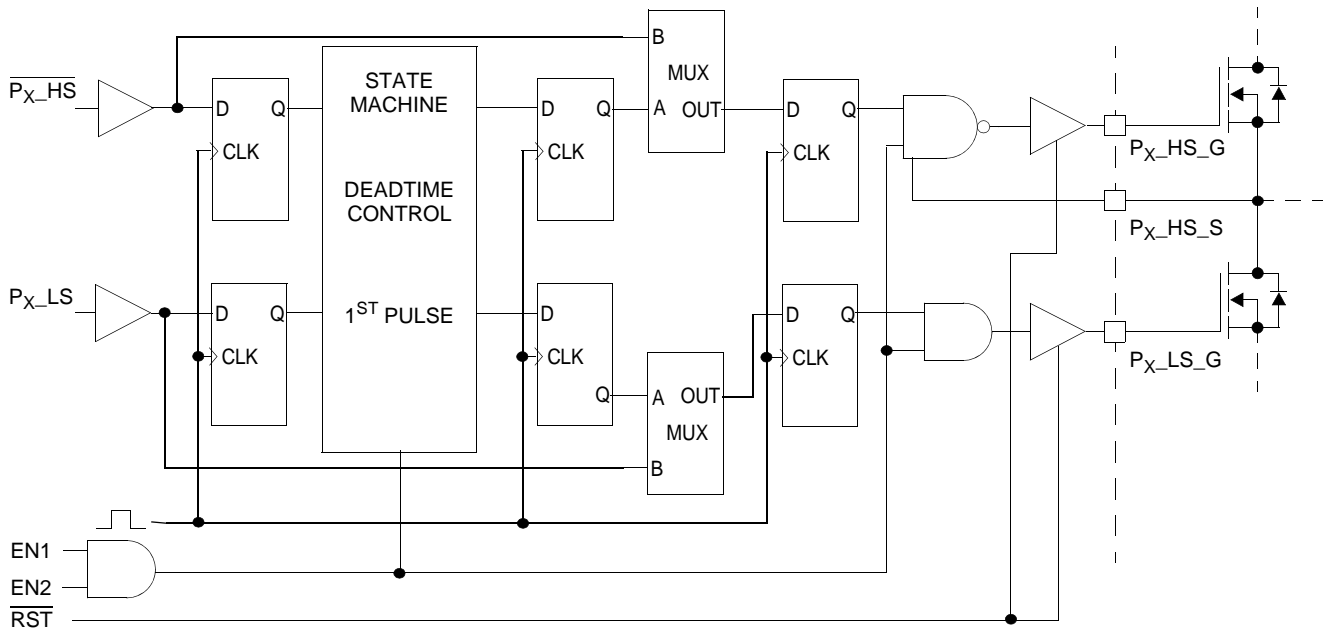

Figure 6. Deadtime Control Delays
39. These delays include all logic delays except deadtime. All internal logic is synchronous with the internal clock. The total delay includes one clock period for state machine decision block, an additional clock period for FULLON mux logic, input synchronization time and output driver propagation delay. Subtract one clock period for operation in FULLON mode which bypasses the state machine decision block. Synchronization time accounts for up to one clock period of variation. See Figure 6.